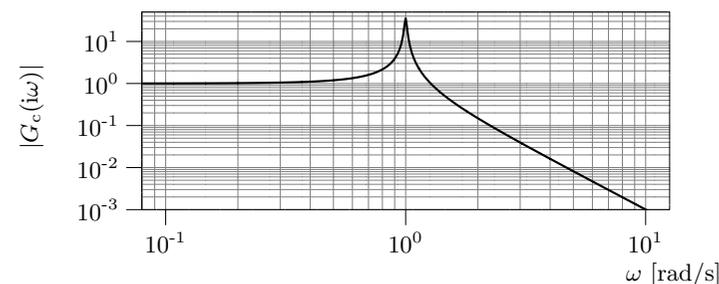

Figure 6.8a
6.8 A system $G^0(s)$ is controlled using a regulator $F(s)$. In Figure 6.8a the amplitude part the Bode plot of the nominal closed loop system,